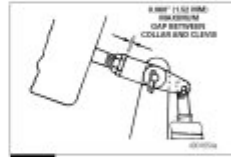

Figure 13.5
8. Measure the gap between the clevis and the collar on a "Quick Connect" clevis. Replace the clevis if the gap exceeds 0.080 inch (2.15 mm). Figure 13.5.